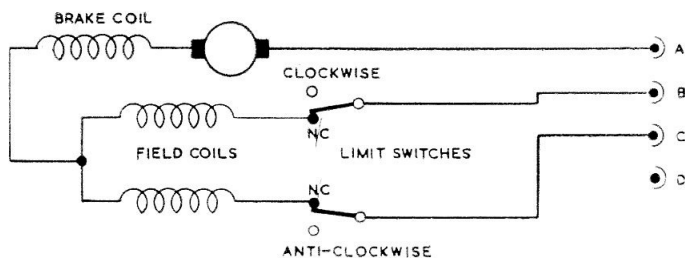

Fig. 5. Circuit diagram
5. The internal connections of the actuator are shown in fig. 5. The external electrical connections are made via a four-pin plug which is mounted on a square base secured to the switch housing by means of four screws. Pin D of the plug is not used.